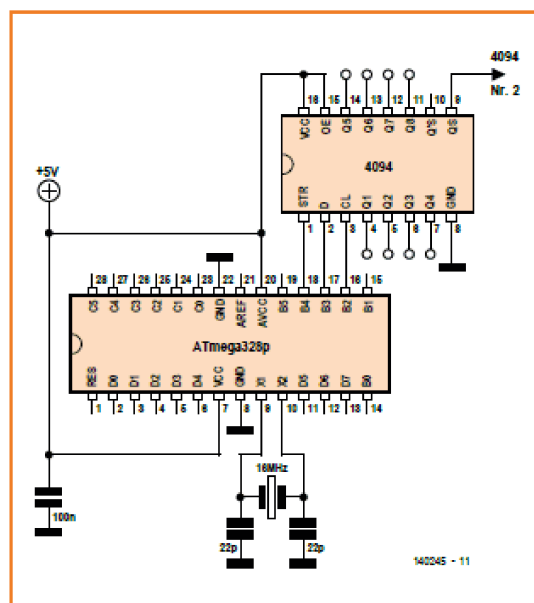

Figure 1.
Figure 1 shows the connections to the Uno board. The 8-bit shift register has a clock input (CL) and a data input (D). The data is applied to the D input one bit at a time, starting with the most significant bit, and a rising edge is applied to the clock input CL for each bit. The data is shifted through the individual flip-flops of the register step by step with each clock pulse. There is also the strobe input STR. When a pulse is applied to the strobe input, all the data present in the shift register is transferred to the type-D flip-flops connected to the output pins. You could also tie the strobe input to the supply voltage Vcc, but then all the intermediate results of each shift operation would appear on the outputs. By contrast, if you apply a strobe pulse after all the bits have been shifted in, you only see the final result on the outputs.